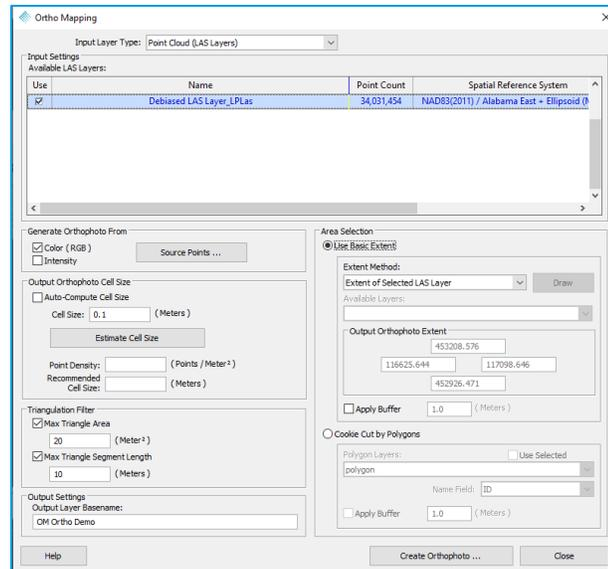

Figure 106 – Ortho Mapping dialog with Input Layer Type: Point Cloud (LAS Layers)
- Select **Ortho Mapping** on the Sensor tab (Figure 105) to open the Ortho Mapping dialog (Figure 106). **Note:** To enable this tool requires a "Photo", or "Photo3000", or legacy "Full Photo" addon license be checked out in addition to the LP360 Drone license.
6. With the input layer type selected to be **Point Cloud** the Ortho Mapping dialog looks like Figure 106.